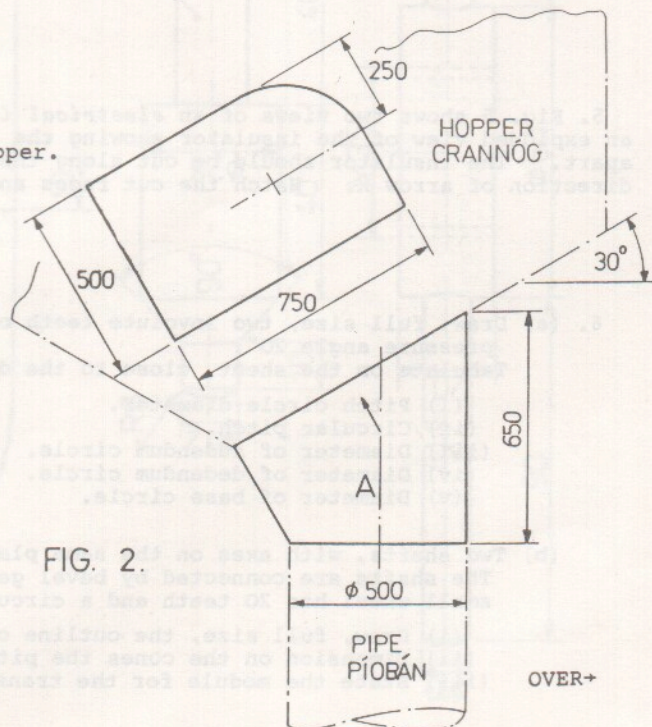

FIG. 2.
2. Fig. 2 shows a grain feed system and the true shape of the opening at the bottom of the hopper.